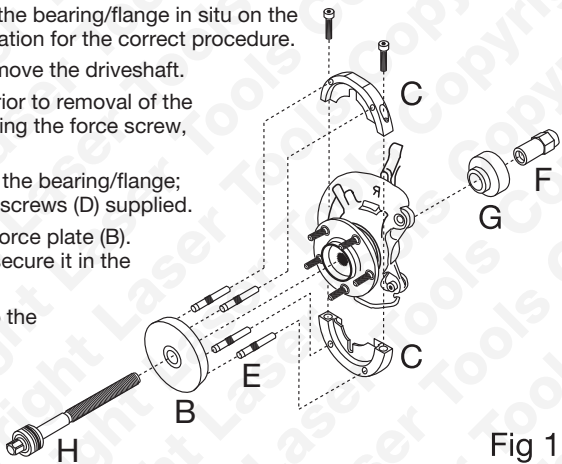
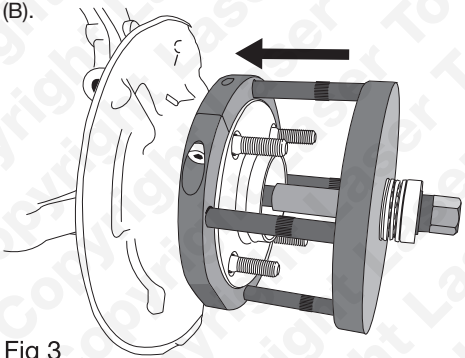
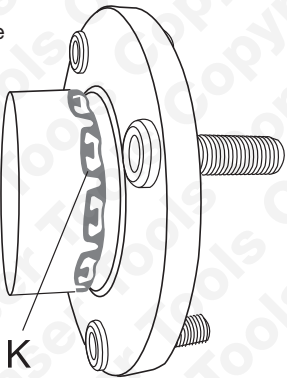

Fig 1
Fig 3
Fig 4
- Assemble the removal clamshells (C) to the bearing/flange; refer to diagram (Fig 1), secure with set screws (D) supplied.
- Assemble the four force pins (E) to the force plate (B). The rubber O-ring on the force pin will secure it in the force plate socket.
- From behind, fit the extraction adaptor (G) over the end of the force screw. Collar-end in towards force screw - refer to Fig 1. Take care to line up cut outs with the ABS sensor.
- Secure the assembled tool with the force screw nut (F). Long threaded end of force screw nut in towards force screw - refer to Fig 1.
- To withdraw the bearing/flange, hold the force nut (F) steady with a 30mm spanner while turning the force screw with a 22mm socket on a breaker-bar or long ratchet handle. (Do not use air tools.)
- Refer to Fig 3: Offer up the force plate/pin assembly to the clamshells, and fit the main force screw through the force plate/pin assembly.
- From behind, fit the insertion adaptor (I) over the end of the force screw so that it sits on the outer edge at the rear of the hub carrier. Take care to line up cut outs with the ABS sensor.
- To push in the new bearing/flange, hold the force nut (F) steady with a 30mm spanner while turning the force screw with a 22mm socket on a breaker-bar or long ratchet handle. (Do not use air tools.)
- Turn force screw until bearing/flange is fully home. If fitted, ensure that the tangs of the barbed retaining ring (K) are correctly seated in the retaining groove. See Fig 4.